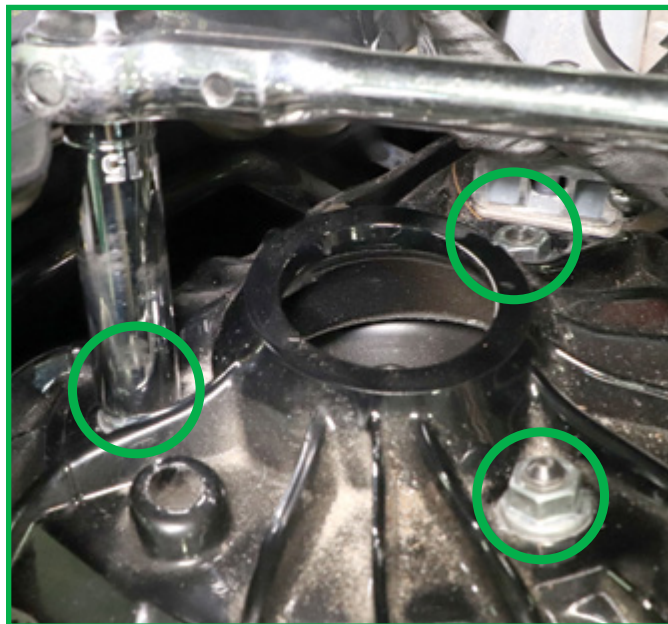

FIGURE 12
9. Remove the three (3) top mount nuts. (Figure 12)